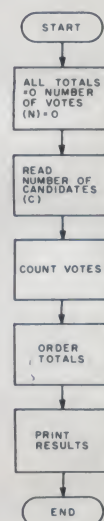

Fig. 3. Initial flowchart for the vote-analysis program.
Fig. 3 shows the initial program flowchart. The important variables are: N (I)—number of votes for candidate I, V—total number of votes, M (I)—candidate numbers for rank-ordering.